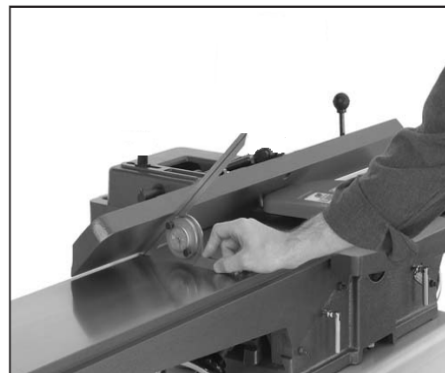

Figure 17
1. Using a 45° square, adjust the fence to the 45° inward position, as shown in Figure 17